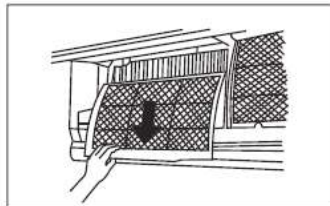
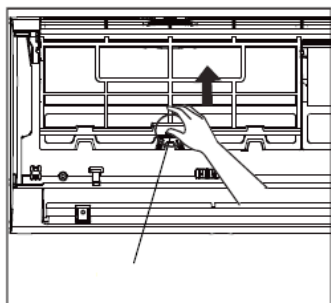

fig. 18 -
fig. 17 -
3. Remove the filters by pushing up the central tabs until they free themselves from the retainer and slide them off downwards ("fig. 17 -" and "fig. 18 -")